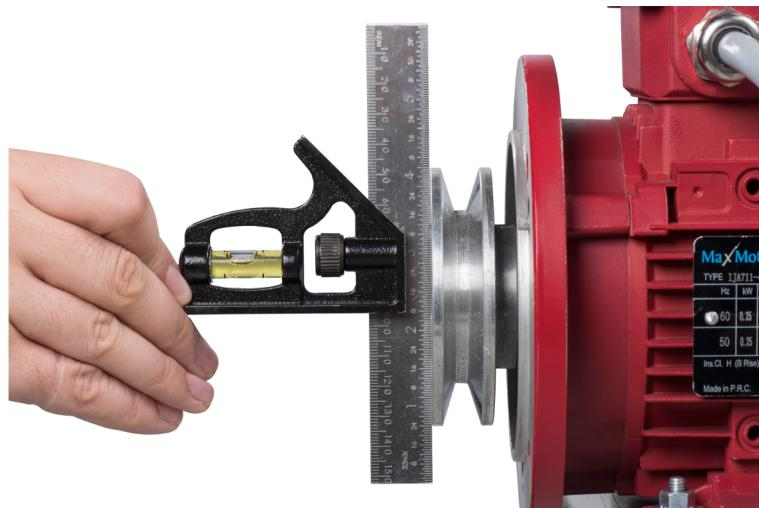

Figure 15. Vertical angular alignment.
- 18.** Verify the vertical angular alignment by laying a combination square against the face of the driving pulley as shown in Figure 15. Note the position of the bubble.